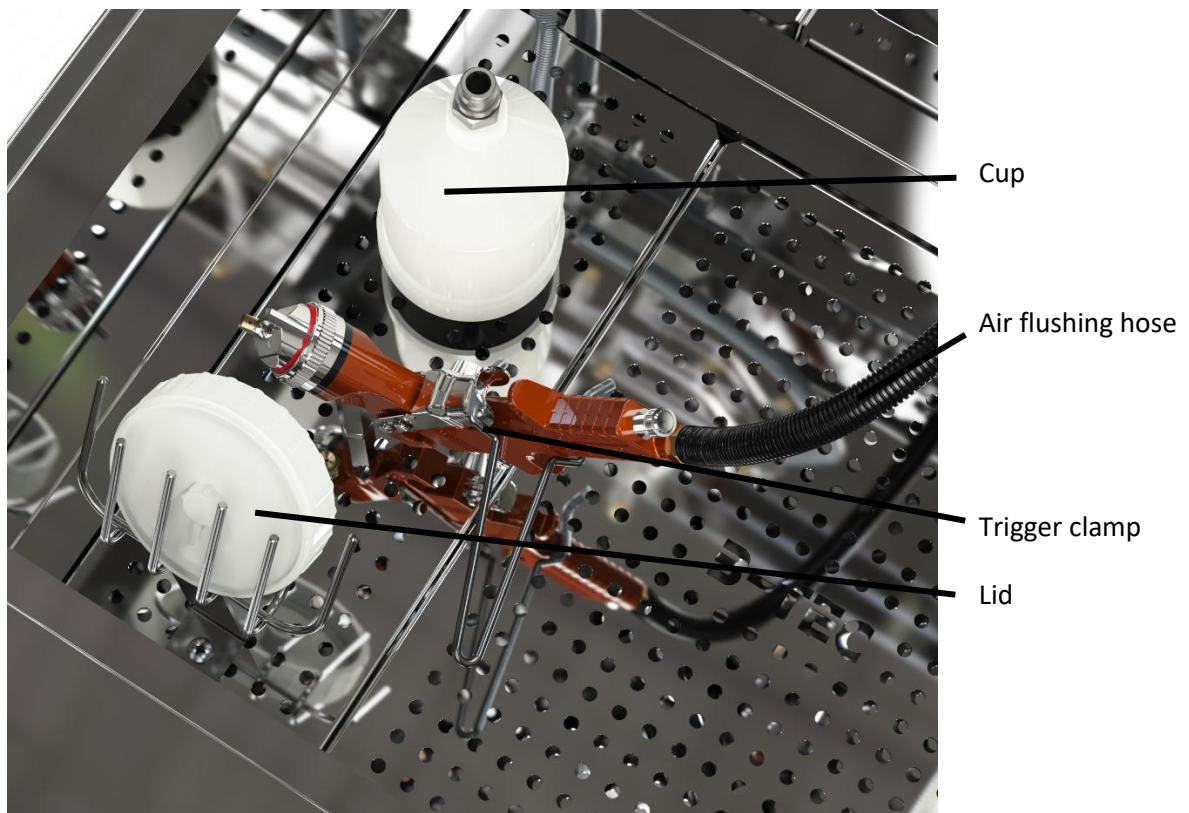

Figure 10-3
4. Figure 10-3). This ensures that the paint channel is open for cleaning and that the residual paint runs downwards out of the gun neck.